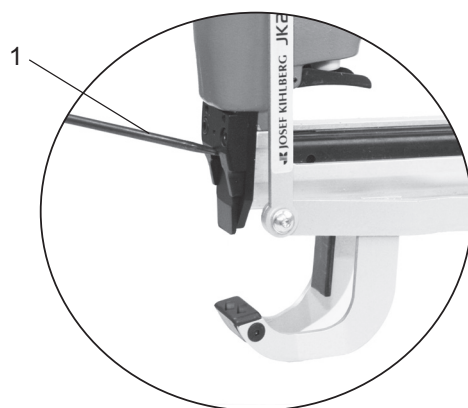

Fig. 5
- Pry the door open with a screw driver (Fig. 5/1) . There are three notches in the door to simplify the disassembling.